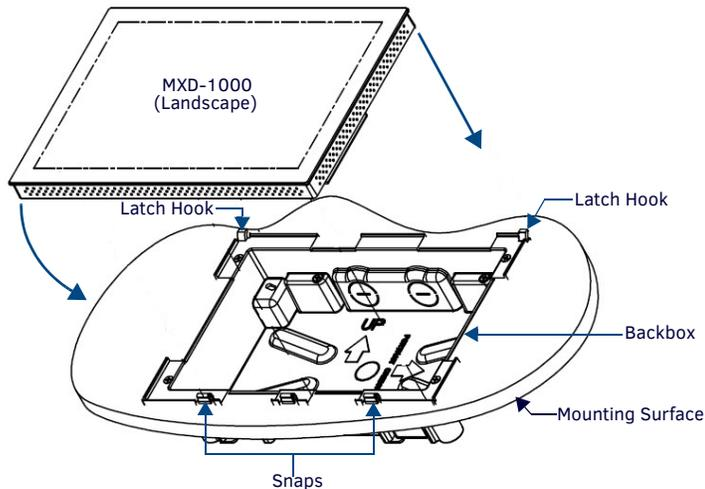

FIG. 5 INSTALLING THE MXD-1000
- Latch the panel onto the top hooks on the Backbox and push it down (Landscape) onto the bottom snaps or on the left side and push it to the right (Portrait) (FIG. 5). Press gently but firmly on the ends until the snaps "click" to lock it down.